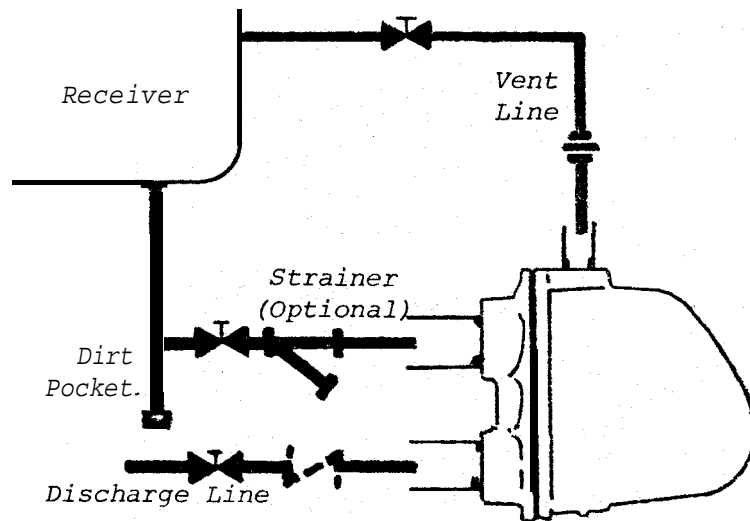

FIGURE 3
Install the liquid drainer with its inlet connection below the liquid level in the equipment to be drained. Figure 3 shows the recommended piping for a liquid drainer.
- 5) LIQUID DRAINERS must be back vented to avoid air-binding. Do not reduce the pipe size to less than 1" for the back vent. Connect as shown in Figure 3. Use a full ported valve in the back-vent line. Remember that the pressure in the drainer is the same as in the unit drained. Only the difference in liquid levels produces flow. Minimize fittings and length of pipe between the vessel and the drainer.